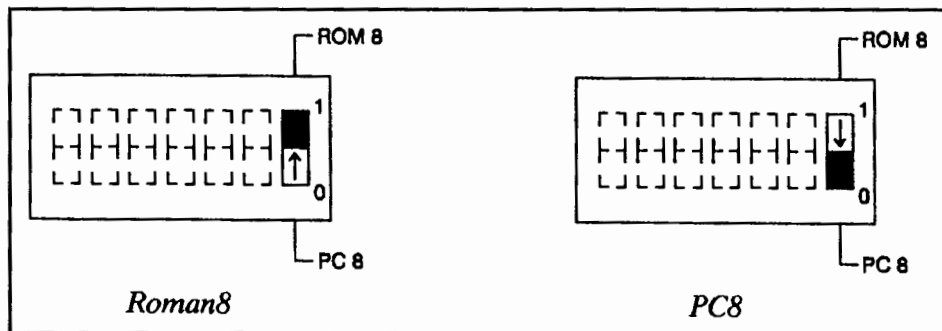

Figure 2-15. Switch Settings for Roman8 and PC8 Character Sets
- Setting the ROM8/PC8 switch on establishes the Roman8 symbol set as shown in Figure 2-15.